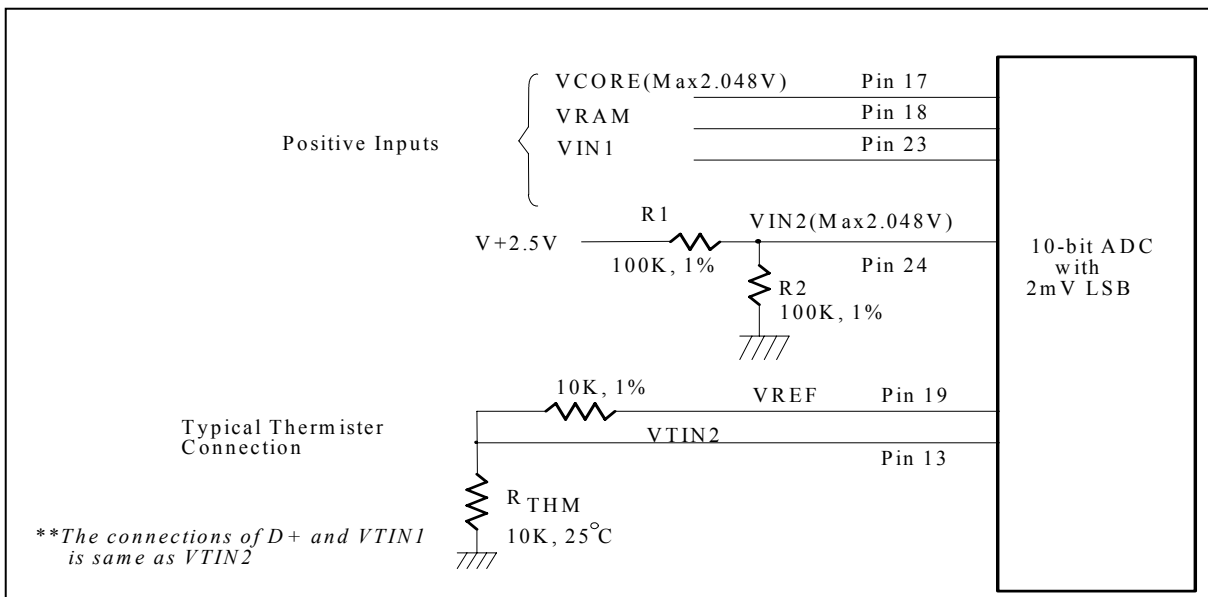

Figure 3
The maximum input voltage of the analog pin is 2.048V because the 8-bit ADC has the 2mv LSB. Actually, the application of the voltage monitoring would most often be connected to power suppliers. The input voltage lower than 2.048V could directly connect to the analog inputs. The inputs voltage higher than 2.048V should be reduced by external resistors so as to meet the input range. This is shown in Figure 3.
W83L786R/G can connect two thermistors and one thermal diode sensor to measure three different environment temperatures. The specification of thermistor should be considered to (1) β value is 3435 K, and (2) resistor value is 10K ohms at 25°C. In the Figure 3, the themistor is connected by a serial resistor with 10K Ohms, and then connect to V_{REF} (pin 19).